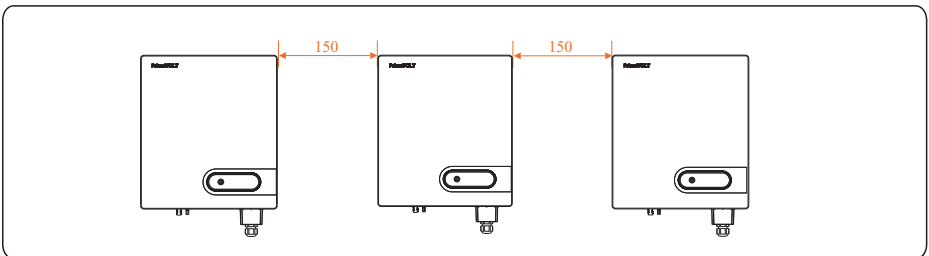
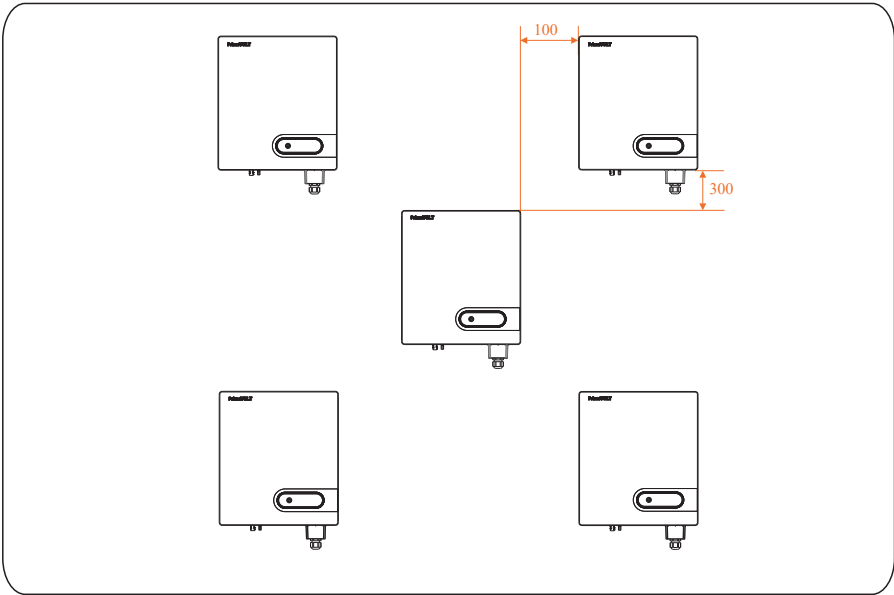
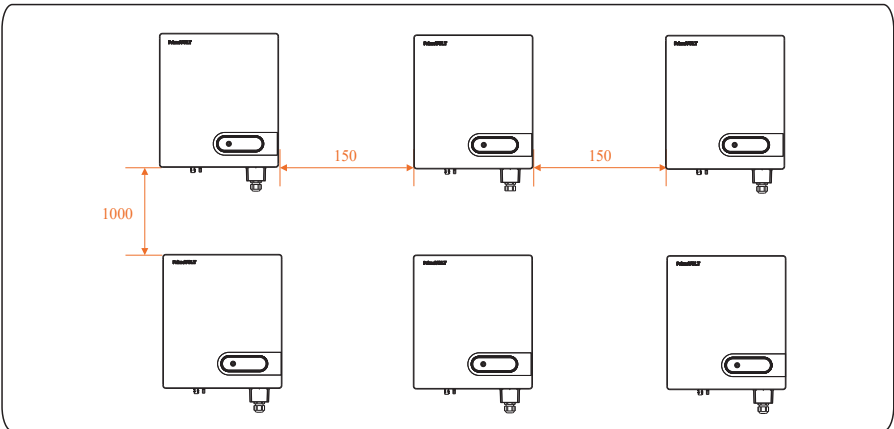

Figure4.4 Installation along the same line (unit: mm)
Figure4.5 Installation in triangle mode (unit: mm)
Figure4.6 Installation in stacked mode (unit: mm)
- c. When installing multiple inverter, install them along the same line (as shown in Figure 4.4) if sufficient space is available, and install them in triangle mode (as shown in Figure 4.5) or in stacked mode (as shown in Figure 4.6) if no sufficient space is available. The installation modes ensure sufficient space for installation and heat dissipation.